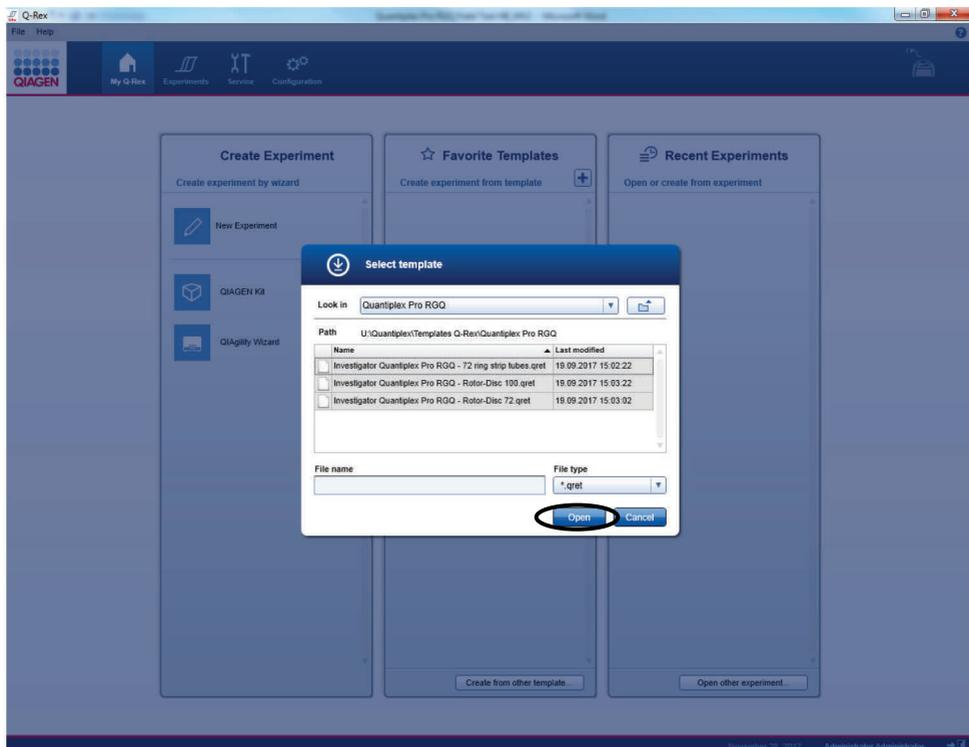

Figure 2. Setting up a quantification run in Q-Rex.
11. Browse to locate the saved Quantiplex Pro RGQ template files for manual setup and select the correct Quantiplex Pro RGQ template file for 0.1 ml strip tubes, Rotor-Disc 72 or Rotor-Disc 100 (Figure 2).
12. Click on open (Figure 2).